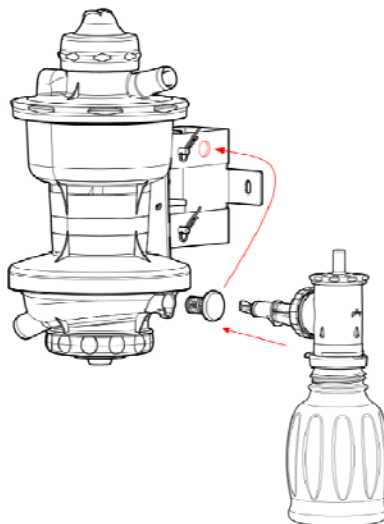

Fig. 1
- Remove the plug from the MMV and place it on the bracket in order not to lose it (Figure 1).
Remove the plug from the MMV and place it on the bracket in order not to lose it (Fig. 1).